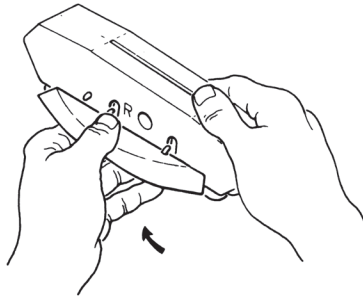

Figure 10
- Remove the old wings by bending the wings up toward the sides of the cleaner, and lift them off their hooks (see Figure 10). If any of the wing hooks are broken, take the Cleaner to your dealer for pod replacement as the unit will not function properly if the wings are not properly attached.